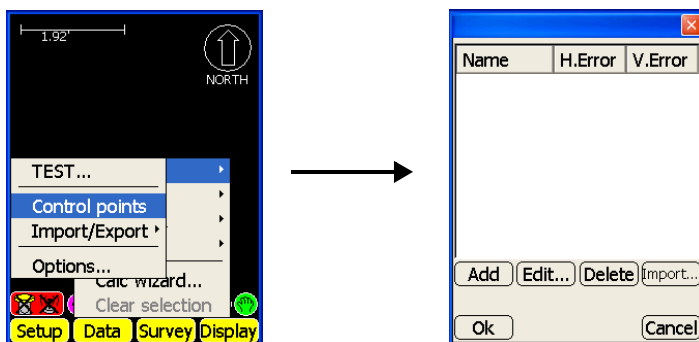

Figure 2-5. Open Control Point File for Editing
8. Press **Data ▶ Control ▶ Control points** (Figure 2-5) to edit the selected Control Point file.
9. On the **control points** dialog box (Figure 2-5), press **Add** to enter a Control Point and its respective information.